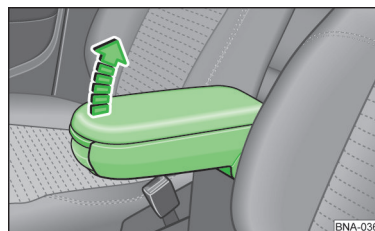

Fig. 41
- To **adjust the height**, lift the armrest in the direction of the arrow into one of the six locking positions » fig. 41.